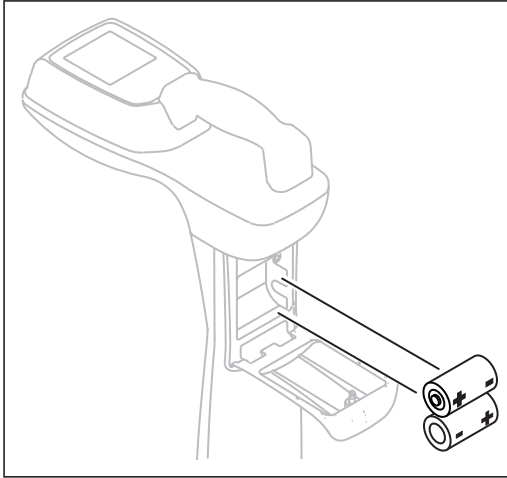

Fig. 6: Changing the batteries in the **UT 830 R** receiver – battery polarity
3. Insert new batteries. Ensure correct polarity (Fig. 6).